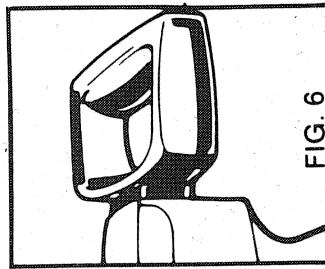

FIG. 6
**SPADE HANDLE:** For comfortable handling, or for needed working clearance, you can attach the Spade Handle either horizontally (Figure 6) or vertically (Figure 7). To change the handle position, loosen the holding screw to the point where you can pull back on the handle and rotate it 90°. Then push handle forward and retighten screw.